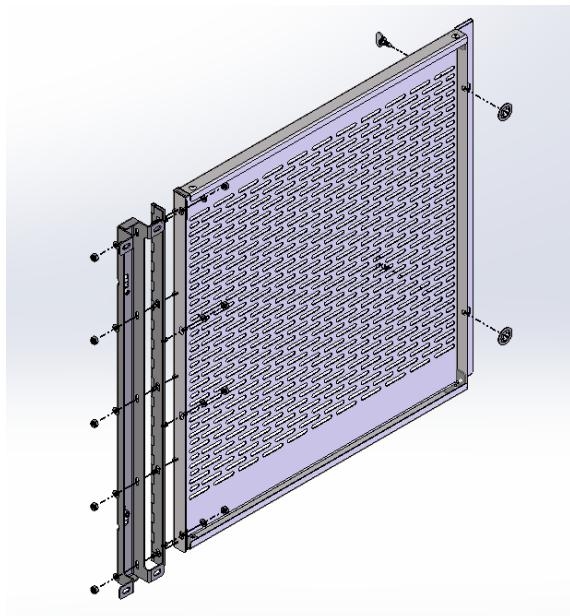

Figure 6: Middle Guard Assembly
12. Assemble the Middle Guard, 23" Hinge and Passenger Bracket together, this finished subassembly will be referred to as the Middle Guard Assembly (MGA). (Figures 6 & 7)